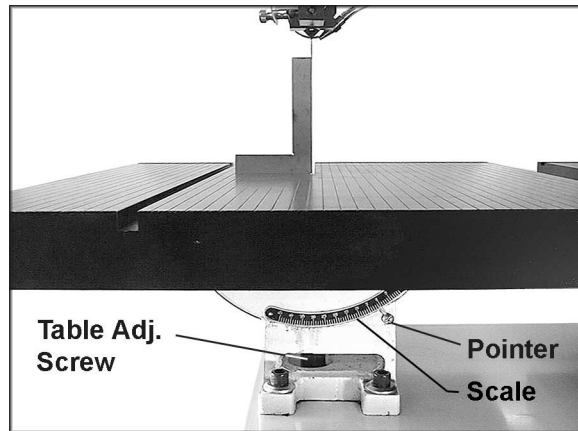

Figure 11
1. Place the table in horizontal position with “0” on the scale (Figure 11).
3. If the square is not flush against the blade, loosen the screw below the table (Figure 11) with a 26mm wrench (provided).